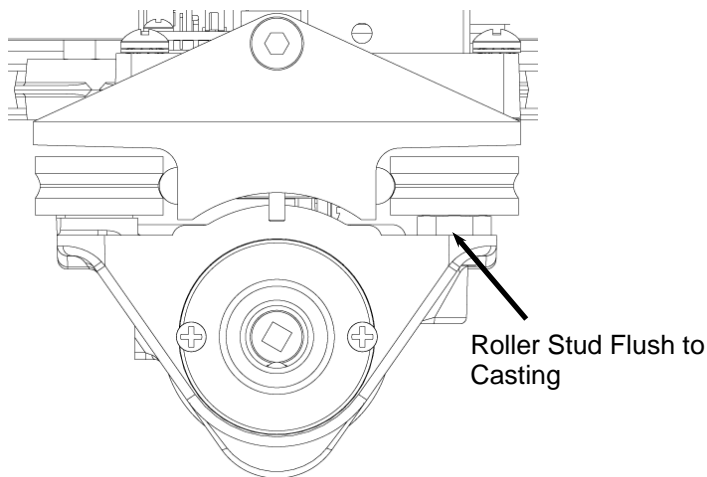

FIGURE 14: TOP VIEW OF A PROPERLY INSTALLED Z-TRUCK
- 5. Tighten the adjustable roller bearings:** This is the most important step in the replacement process. First using the 12mm flat wrench to hold the roller stud, tighten the roller screw so that the face of the hex stud is snug against the back of the casting. Do this for both rollers but do not fully tighten the screws. The problem that must be avoided is creating a cant to the truck by not having the face of the roller stud flush with the Z-truck casting. See Figure 14 and 15 for a comparison of a properly and improperly assembled roller.
- d. After tightening check to see that the hex stud is still flush to the casting as in Figure 14.
- f. Next, turn the wrench counter-clockwise while holding the screw in place. Alternate tightening each roller only slightly to balance the preloading. After each tightening check to see that the hex stud is still flush to the casting as in Figure 14. The proper preload level is reached when you can no longer rotate the bearing against the rail with your fingers. If it is too loose you will be able to have the bearing skate across the rail surface without the truck moving. Once the rollers have the correct preload hold the wrench still and tighten the screw as much as possible by hand.